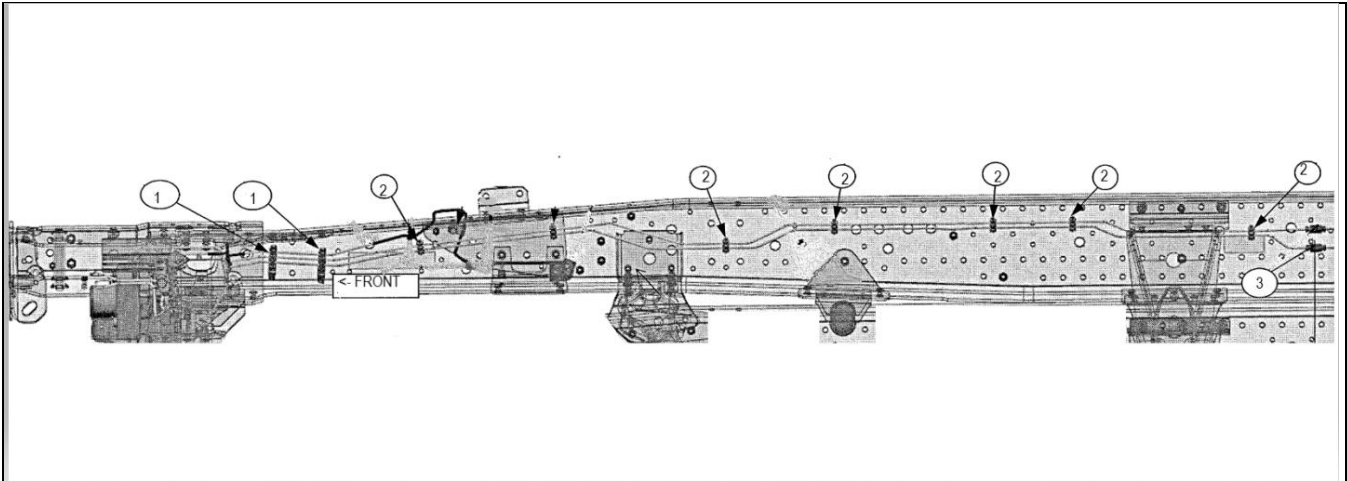

Figure 9
11. Make note of the type and location of each of the 8 plastic clips securing the brake lines. Use a paint pen or chalk to draw a circle around the correction hole for each clip hole on the outside of the frame. (See Figure 9.) Ensure that the **correct holes** for both of the two improperly installed clips shown in Figure 2 are marked.